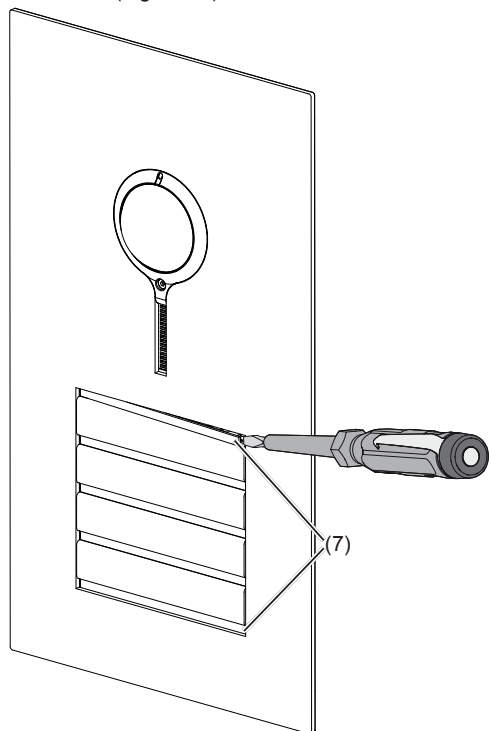

Figure 16: Removal of cover strips
- Lever up the interlocking cover strips (7) at the top and bottom using the screwdriver and remove (Figure 16).